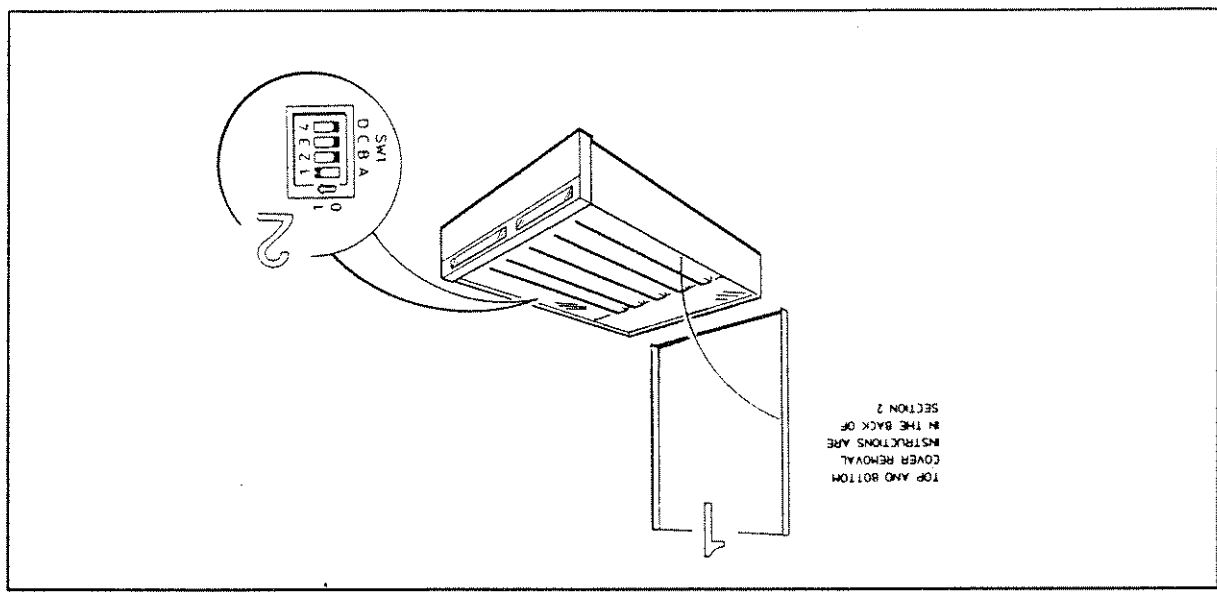

Figure 4-1. Service Switch Location
1. Open the instrument and set the service switch, SW1-A, to position 1. See figure 4-1 below.
10. Return the signal generator test switch, SW1-A to the 0 position. See figure 4-1. Replace the signal generator's covers.